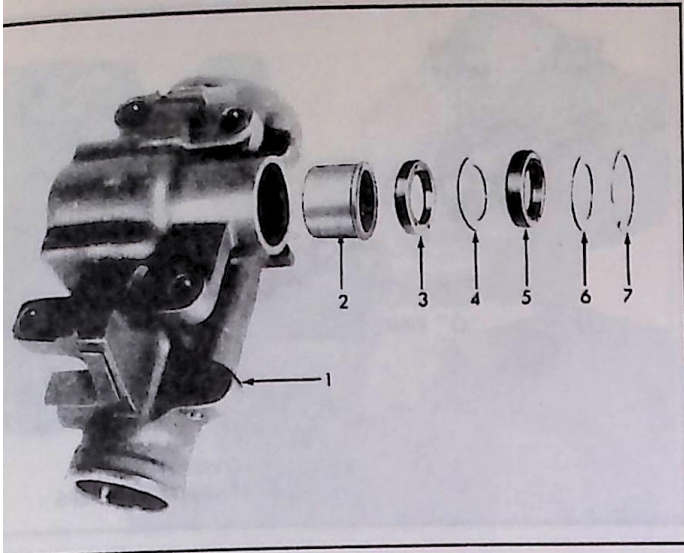

Fig. 50—Pitman Shaft Bearing and Seals
1. If pitman shaft seals ONLY are to be replaced, remove the seal retaining ring with Internal Pliers J-4245 and remove outer steel washer. Pry out the outer seal. Remove the inner steel washer, then pry out the inner seal (fig. 50). Discard seals.